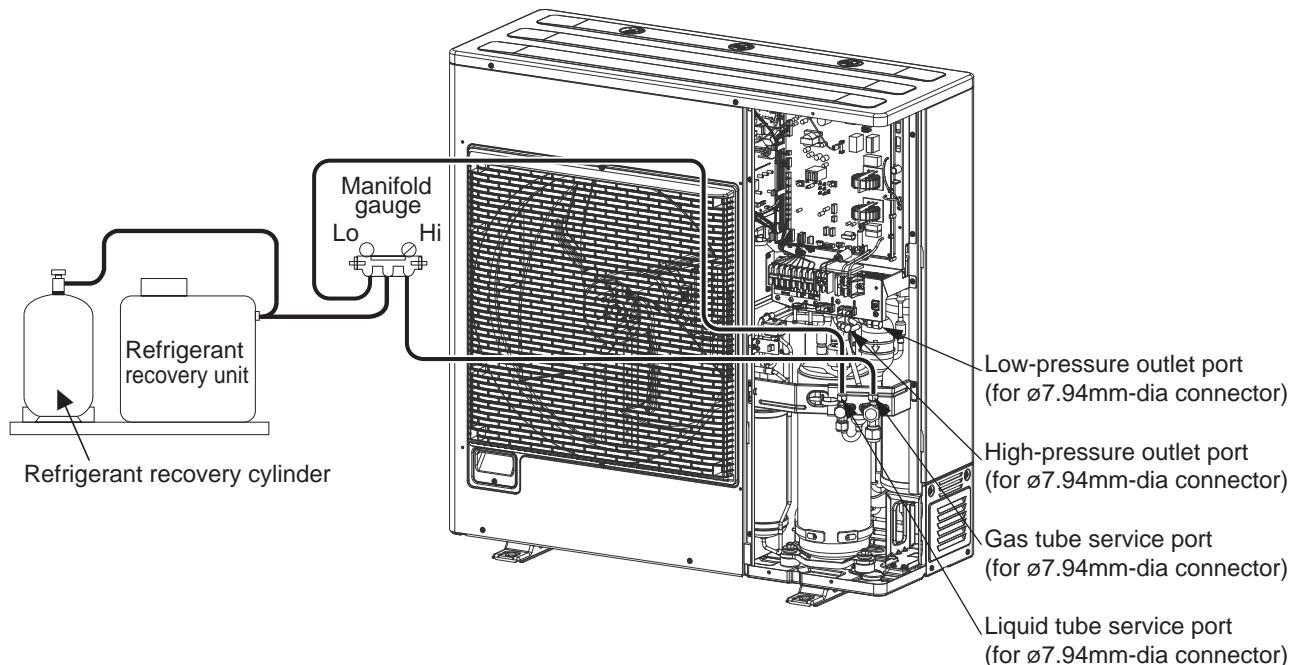

Fig. 4
- ④ Using hoses with Schrader-type push-to-release valves, connect the manifold gauge valves to the gas tube service port, the liquid tube service port to undergo pump down. (Fig. 4)
- (1) Turn off power to the outdoor unit.
- (2) Short-circuit the AP pin on the outdoor control PCB, then supply power to the outdoor unit.
- (3) Connect the manifold gauge to the high- and low-pressure outlet ports (Schrader-type valves) on the outdoor unit. (Fig. 4)